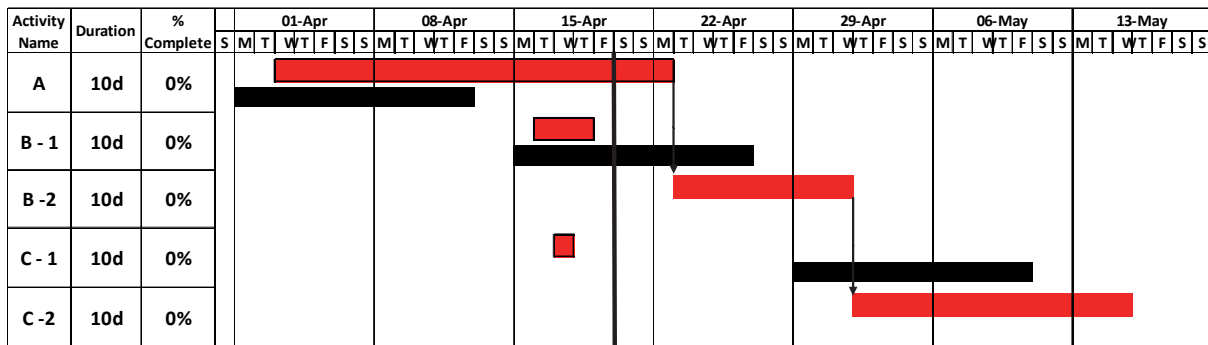

Figure 11 - Impacted Live with multiple activities representing split activities.
- Activities must be added to demonstrate non-contiguous work, as per Figure 11, below,